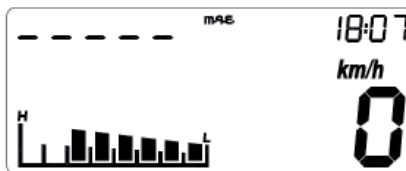

Fig. 10
*The information is displayed as in figure 10.*